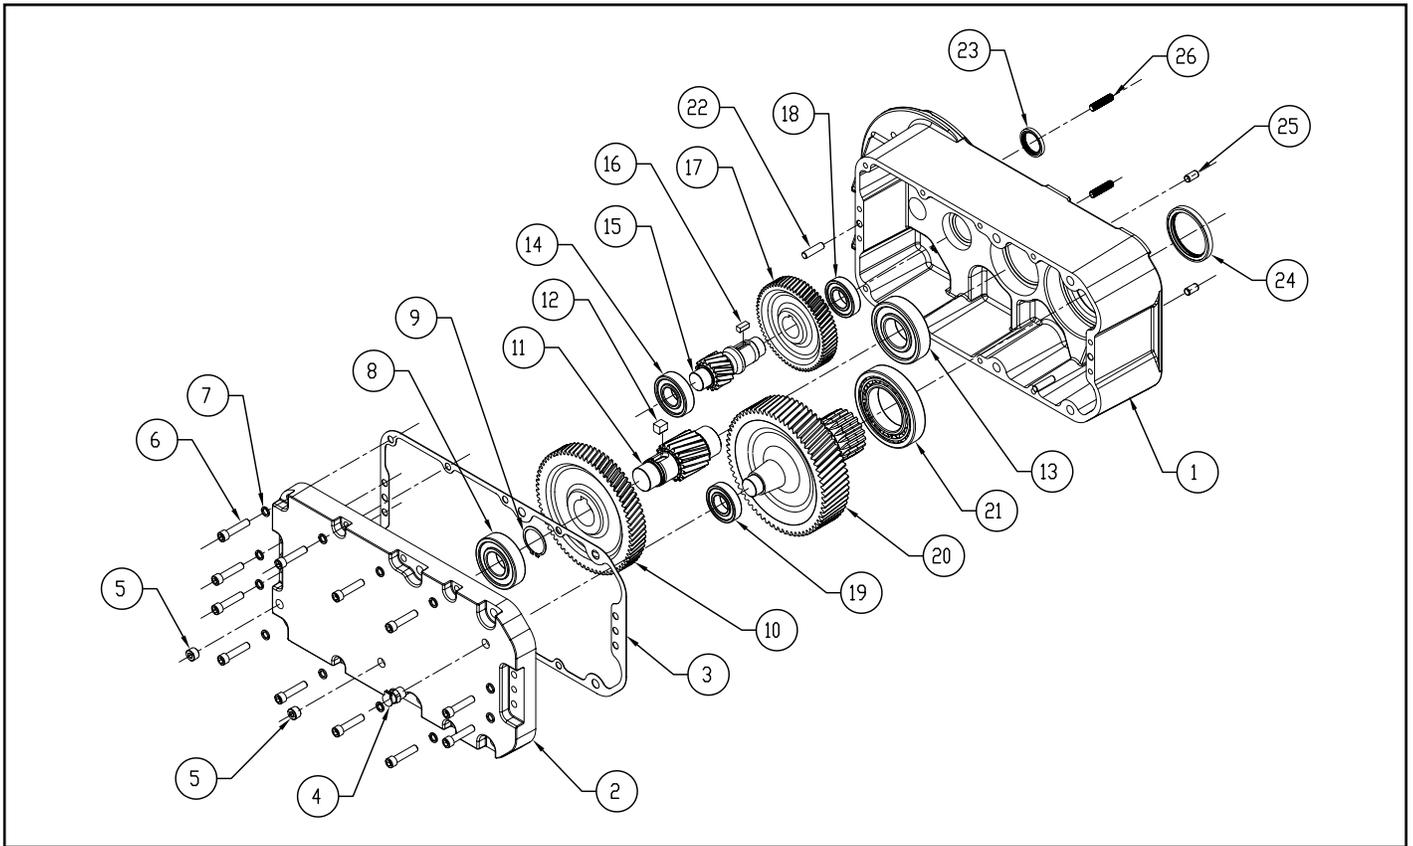

Figure 9-2. Hoist Gearing
| 5   | 44935501           | Hoist Gearcase (See Figure 9-2 for Parts)                                | 1                 |
| 5        | 44936501    | Hoist Gearcase (See Figure 9-2 for Parts)                                | 1          |
| "B" Frame: Hoist Gearing for Figure 9-2. |             |   |            |
**"C" Frame: Hoist Gearing for Figure 9-2.**